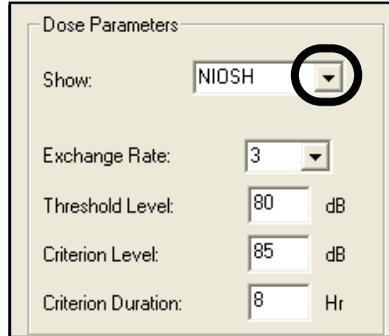

FIGURE 3-13 Open Dose to Recalculate Menu
- Step 1** To select the Dose to be recalculated, left click the down arrow to the right of the “Show” data field shown in FIGURE 3-13.